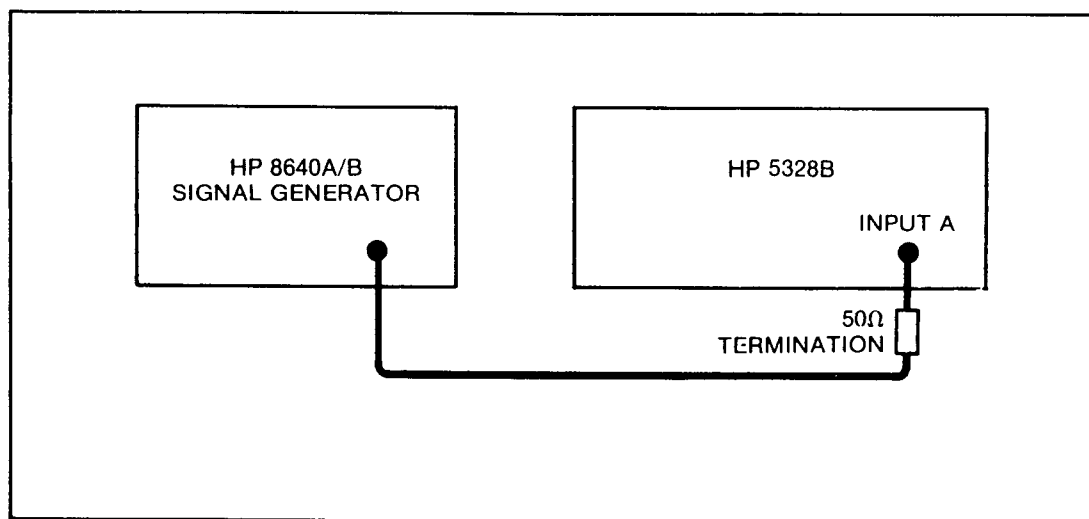

Figure 4-1. Channel "A" Test Setup
- a. Set up equipment for this test as shown in *Figure 4-1*.